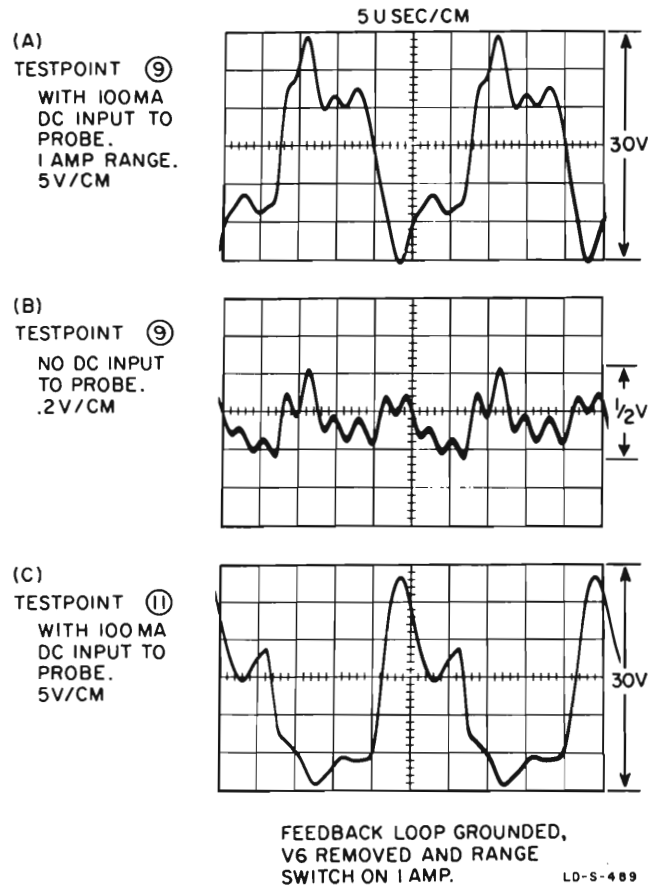

Figure 5-7. Trouble Localization Waveforms
b. With Q1 still grounded, check waveforms (figure 5-7) at transformer T2 (testpoints ⑨, ⑩, and ⑪ on the schematic). Note that the amplitude and shape of these waveforms vary as you rotate the ZERO control. The waveform at testpoint ⑩ should be in-phase with the waveform at testpoint ⑨ while the waveform at testpoint ⑪ should be out-of-phase. If these waveforms are not correct, check V3, 4, and C19 and associated circuitry. If these waveforms are correct check the waveform at testpoint ⑤. If waveform ⑤ is correct go to step d. If waveform ⑤ is not correct, go to step c.